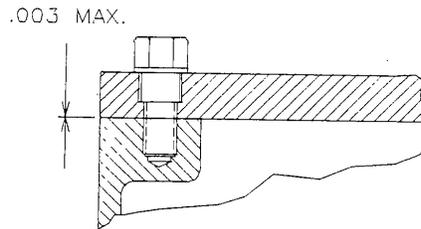

FIGURE 4
- (WEEKLY) 5. () HEADLIGHT SWITCH COVER IS PROPERLY INSTALLED WITH ALL BOLTS AND LOCK-WASHERS IN PLACE AND TIGHT (FIGURE 4).